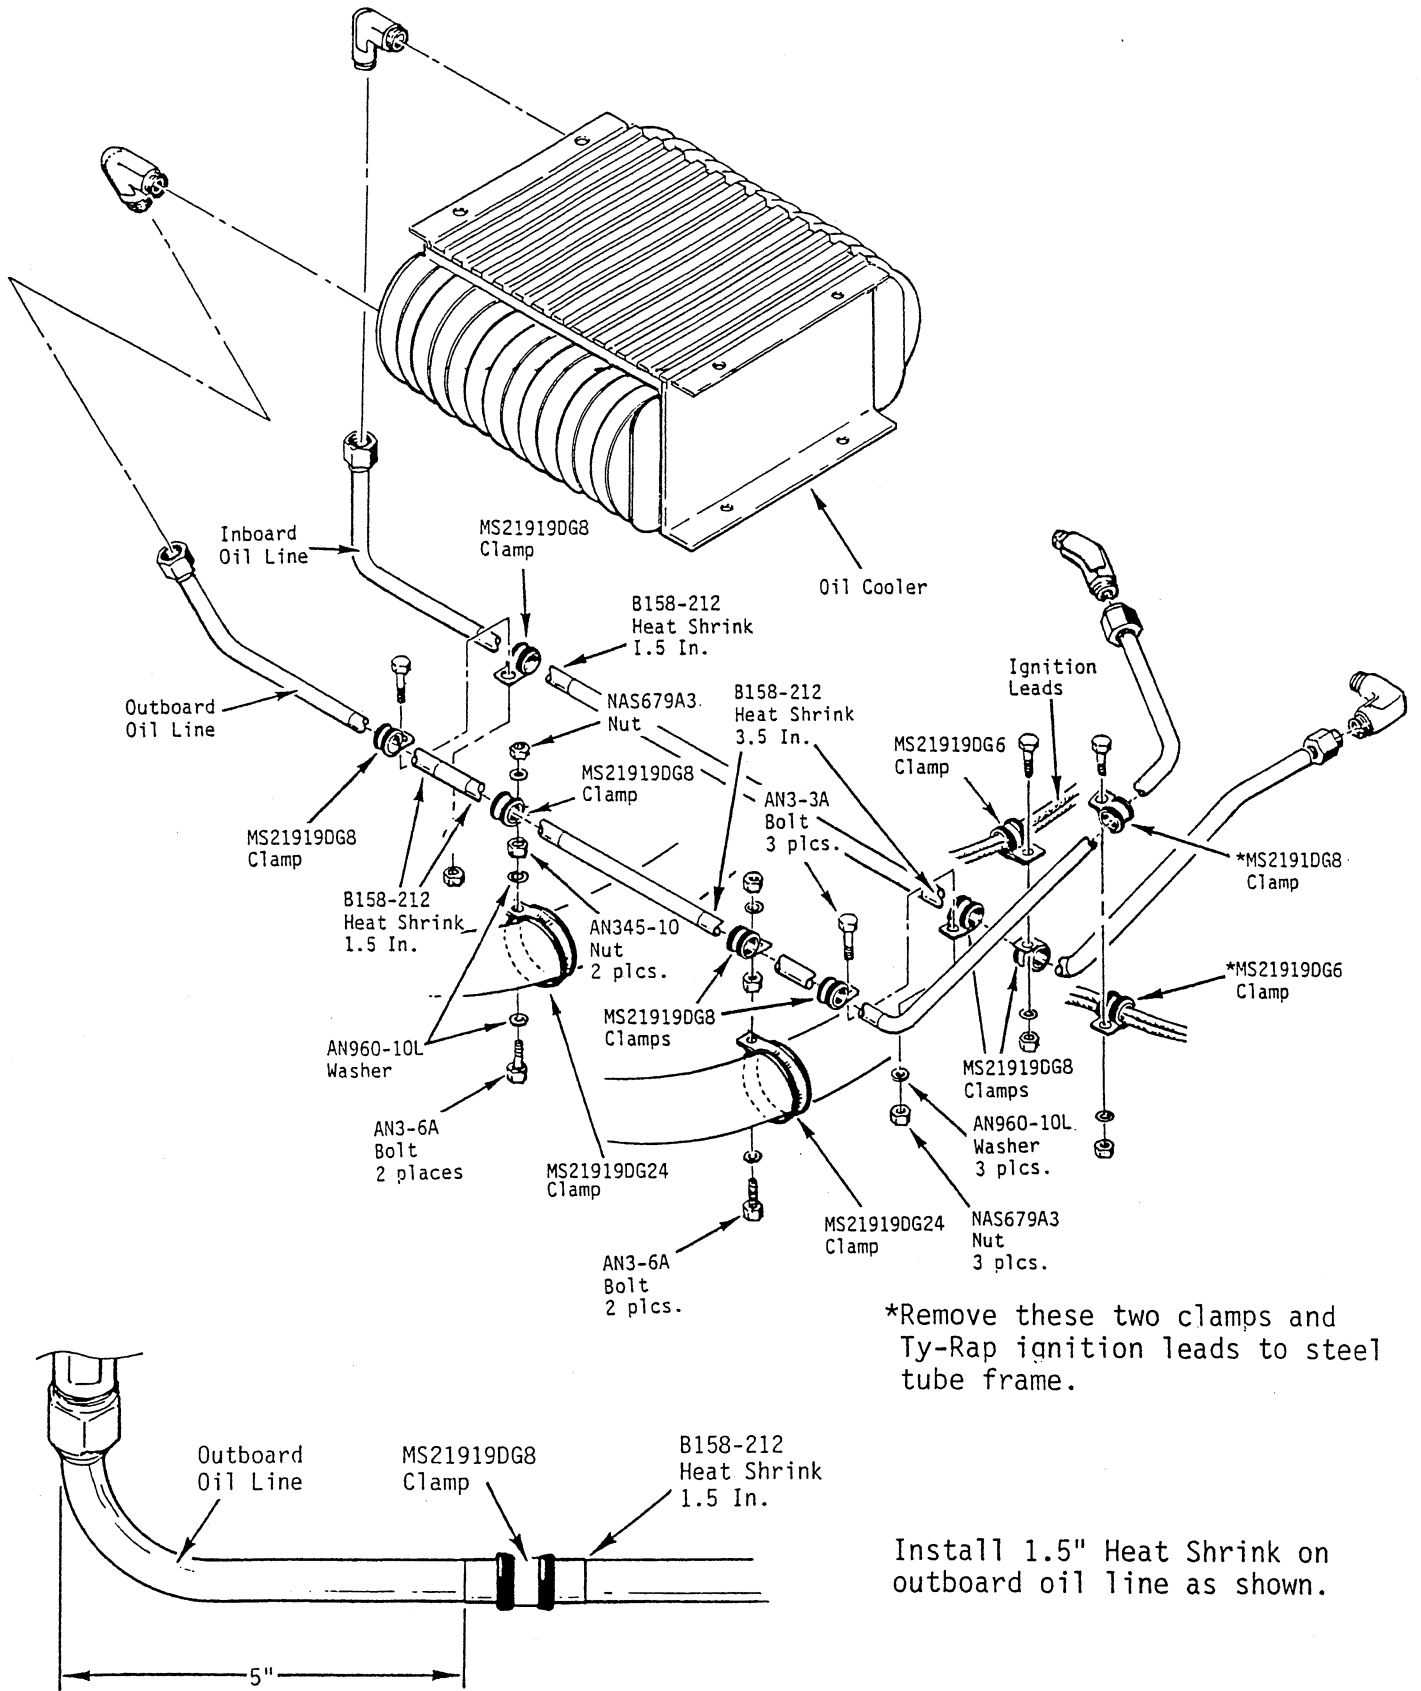

Figure 1
6. Clean the protective sleeves and oil lines of any residual engine oil. Position the sleeves per figure 1. Apply heat with a heat shrink gun or suitable heat source. Reposition the sleeves as required while they are shrinking.
7. Install the new MS21919DG24 clamps onto the intake tubes. Install the new MS21919DG8 clamps over the protective sleeves on the oil lines. Secure the clamps per figure 1 without stressing or pre-loading the oil lines.
8. Secure the two ignition leads to the inboard oil line with a MS21919DG6 and a MS21919DG8 clamp, per figure 1. Do not secure any other items to the oil cooler lines. Reroute and resecure any items away from the oil lines.